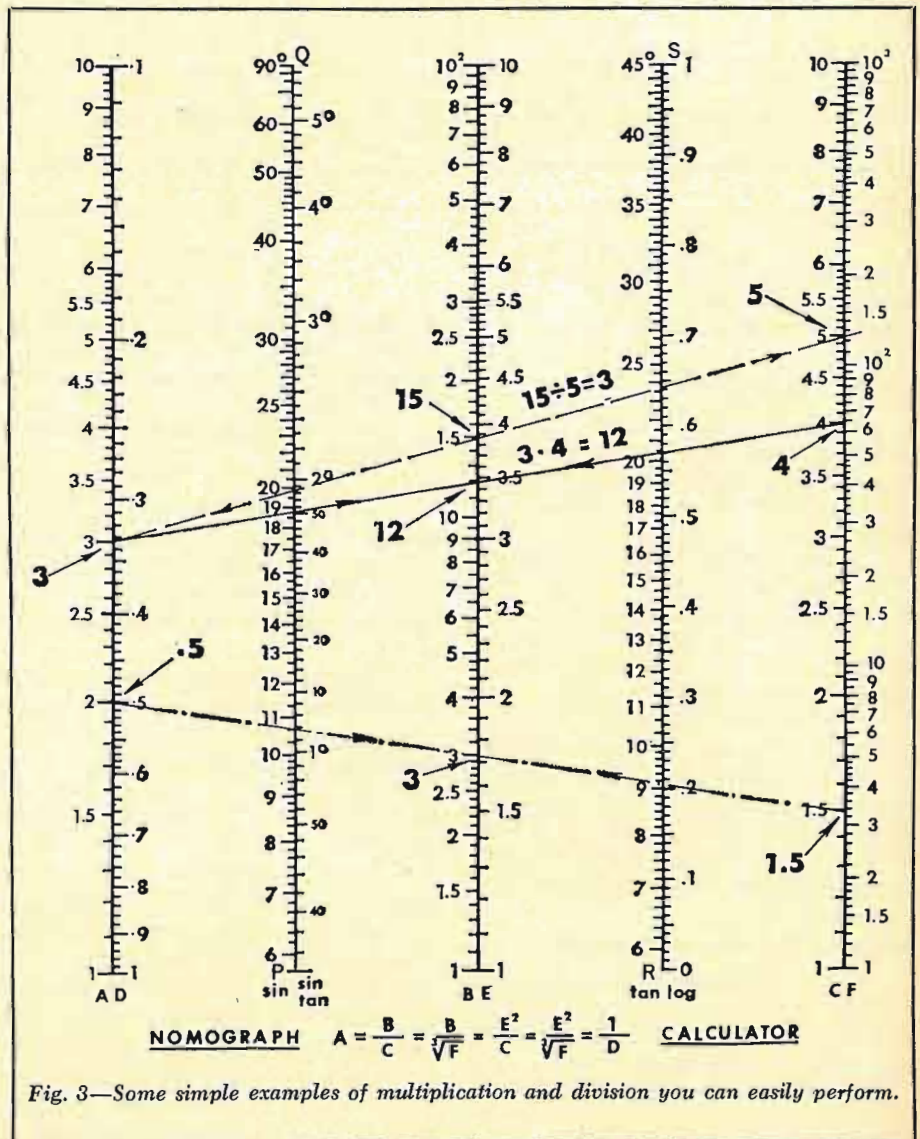

Fig. 3—Some simple examples of multiplication and division you can easily perform.
Multiplication: Connect 3 (on A) with 4 (on C) to find 12 (on B). This is shown in Fig. 3, solid line.
Division: To find 15/5, intersect 15 (B) with 5 (C) to get 3 (A). This is shown by the dashed line in Fig. 3, and uses the equation $B/C = A$. Note that we chose 1.5 on the higher decade of B, above the 10, so it actually represents 15. Another way to divide is to apply the equation $B = C/D$ mentioned earlier. Intersect 1.5 (C) with 0.5 (D) to obtain 3 (B) shown by the dot-dash line.